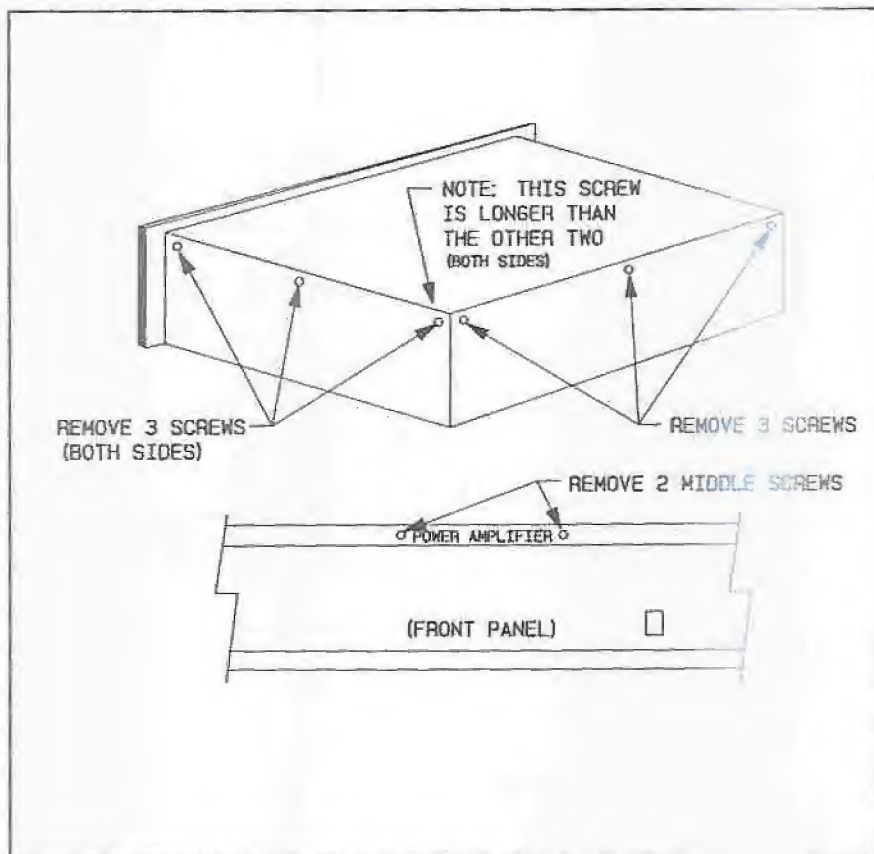

Figure 1 Top Cover Removal
2. Remove and save the eleven screws securing the top cover. There are three screws on each side and three along the top-rear edge of the chassis. In addition, you must remove the two innermost screws inset into the top bumper strip. Refer to Figure 1 for the exact screw locations.